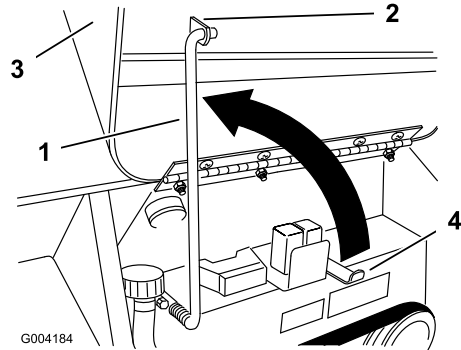

Figure 22
4. Swing the prop rod up and secure it in the bracket on the hood (Figure 22).